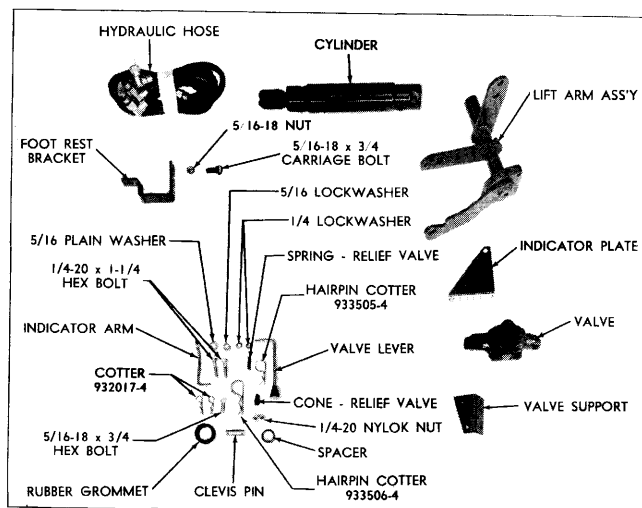

FIGURE 1
1. Remove all parts from the carton and place parts on a clean surface. To identify the parts, mentioned in the instructions, See Fig. 1.